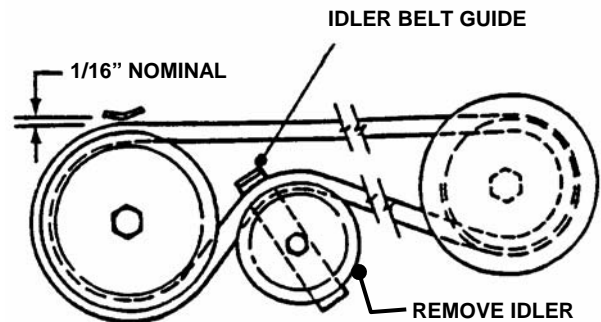

FIGURE 4.15
8. Remove idler. See Figure 4.15 and 4.16.
9. Route belt onto spindle pulley. Make sure belt is inside spindle belt guide and idler belt guide. Route belt as shown in Figure 4.15 or 4.16.
11. Adjust belt guide. See Figure 4.15 or 4.16 for proper belt-to-belt guide clearances.